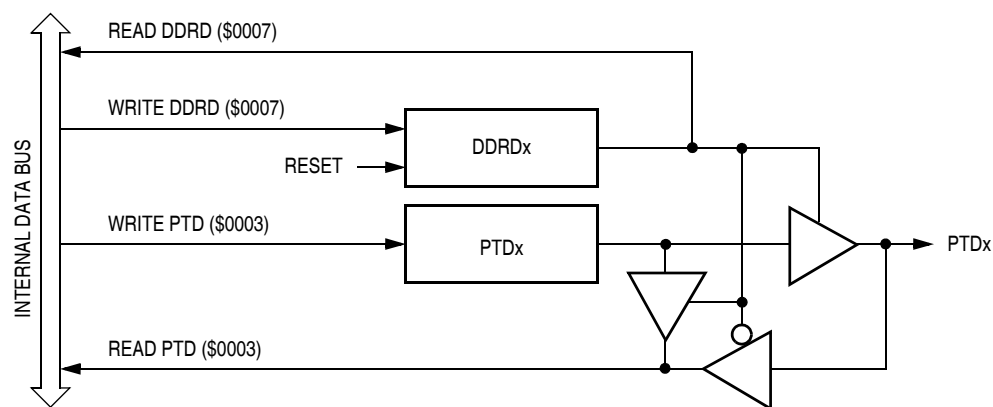

Figure 17-14. Port D I/O Circuit
**NOTE:** Avoid glitches on port D pins by writing to the port D data register before changing data direction register D bits from 0 to 1. Figure 17-14 shows the port D I/O logic.